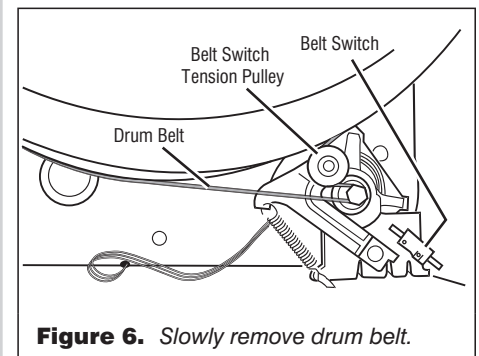

Figure 6. Slowly remove drum belt.
4. Check the belt switch and drive motor. Access the belt switch and drive motor by removing the front panel/drum assembly. See Removing the Front Panel/Drum Assembly, page 10. Slowly remove the drum belt from the spring-loaded belt switch tension pulley, gently letting the pulley down. See figure 6.